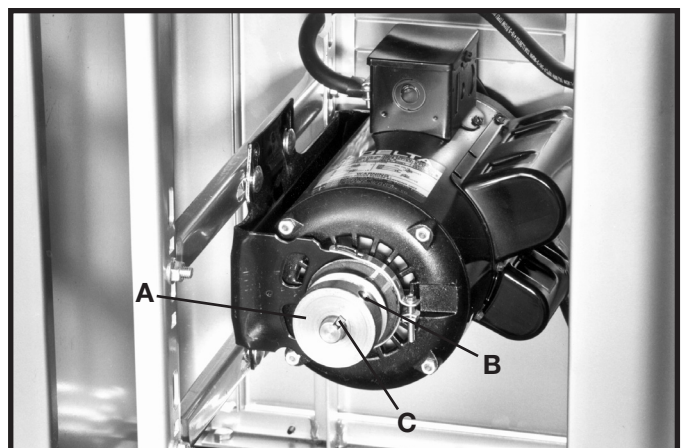

Fig. 5
Assemble motor pulley (A) Fig. 5, to the motor shaft making certain set screw (B) in the motor pulley engages with key (C) in motor shaft.